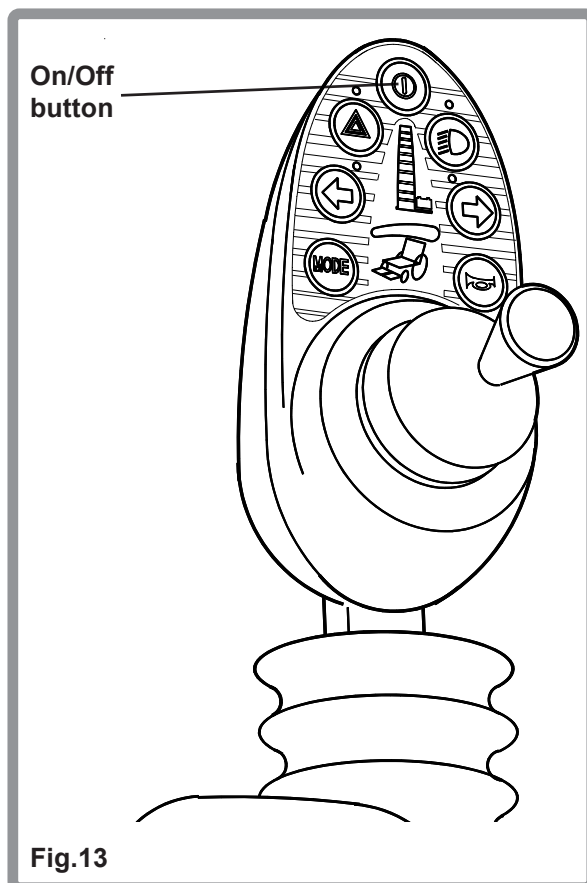

Fig.13
1. Switch the chair on via the On/ Off button (Fig.13).